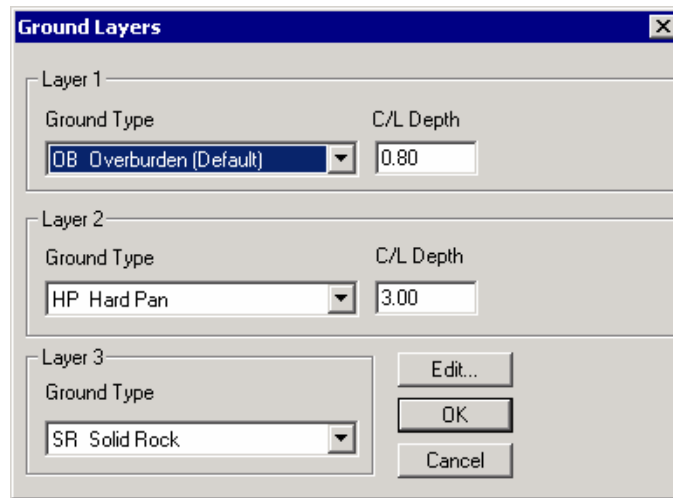

Figure 6.1: Ground Layers Dialog
- In the New Range, press the “+” sign beside Ground layers. Layer 1 is **OB**, and enter C/L depth of **.8**. Change Layer 2 to **HP** for C/L depth of **3** and change Layer 3 to **SR** as shown in Figure 6.1 below. Press OK.